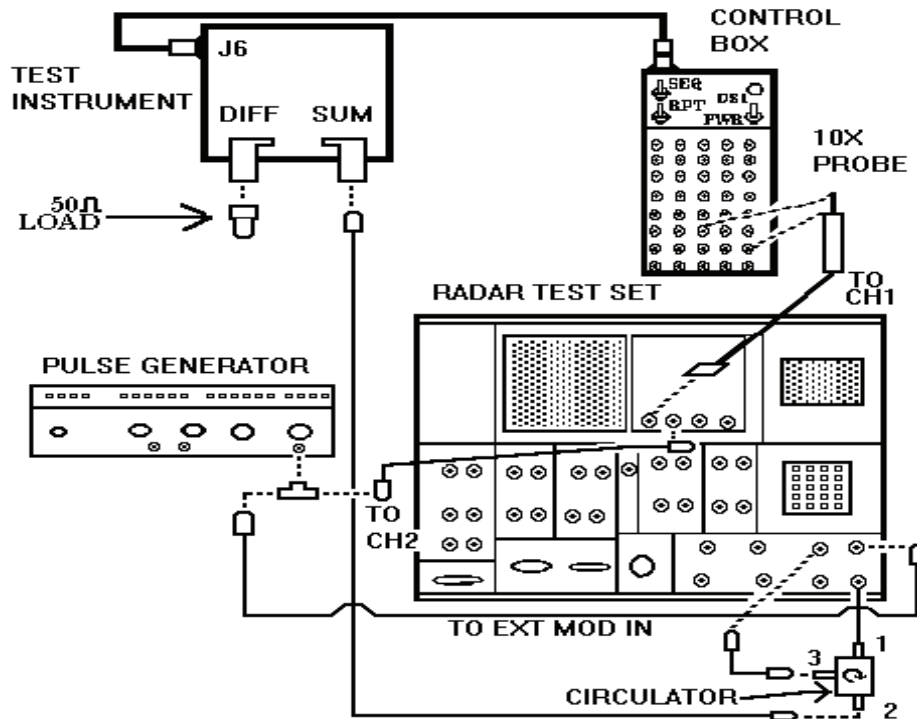

Figure 11. Receiver sensitivity - equipment setup.
- (1) Connect equipment as shown in figure 11.
(1) Connect equipment as shown in figure 11.
(2) Position pulse generator controls as listed in (a) through (c) below: